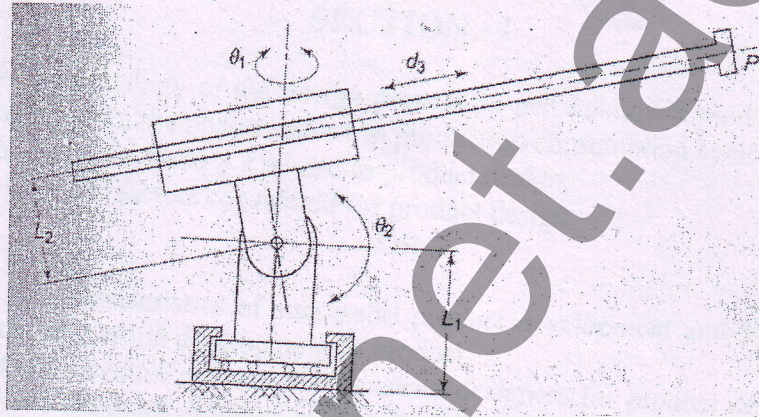

Fig. 4 Que. 5(C)
- For the 3-DOF (RRP) configuration manipulator, shown in fig.4 the position and orientation of point P in Cartesian space is given by